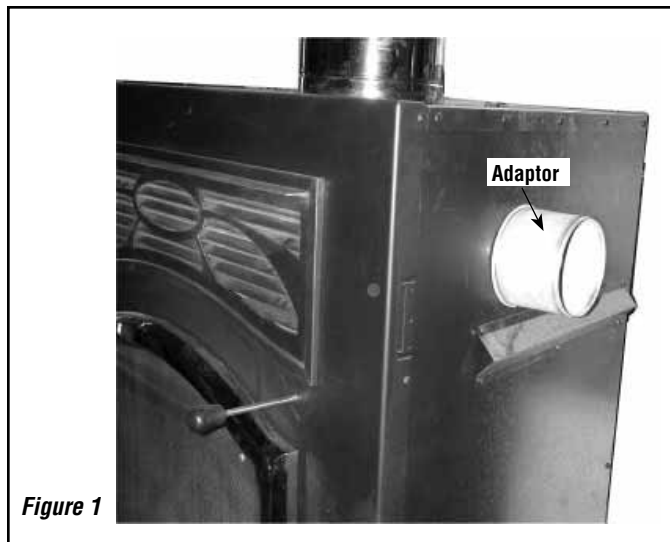

Figure 1
- Step 3.** Remove the corresponding 5-inch plate, cut the insulation following the hole diameter and screw in the flexible pipe adaptor (*Figure 1*). These plates are located in the following places: